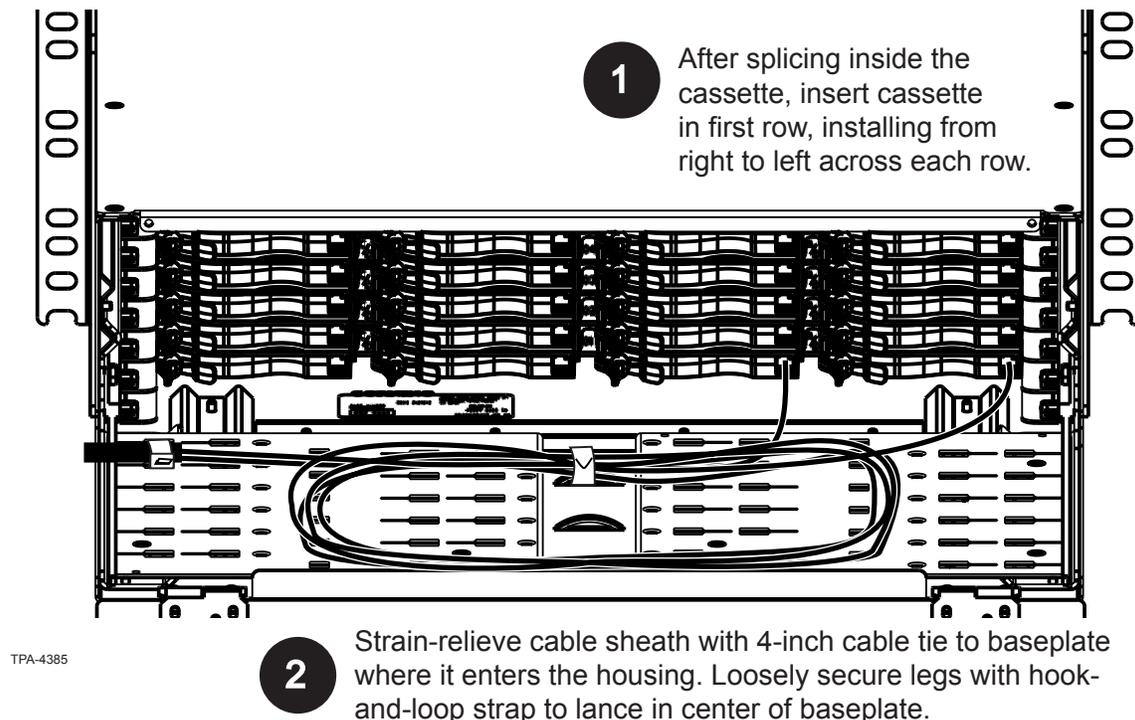

Figure 8
Step 1: Starting in the lower right corner of the housing as viewed from the rear (Figure 8), install the first cassette.